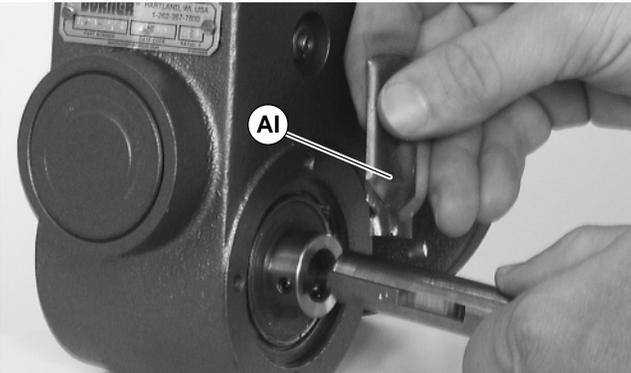

Figure 17
- Remove two (2) screws (AC) and detach output shaft cover (AD).
- Remove gear reducer output shaft key (AE).
- Apply Loctite[®] 680 Adhesive (AI of Figure 17) to new shaft.